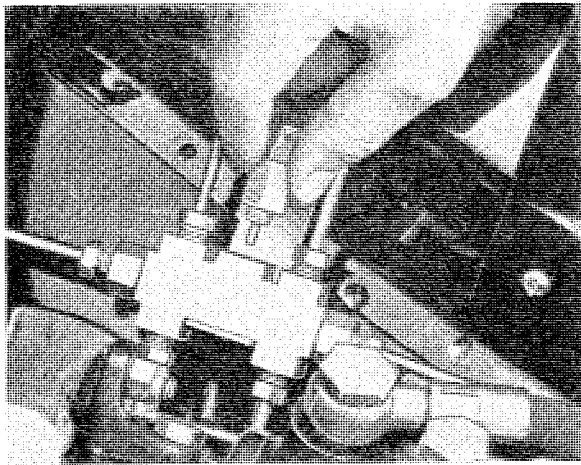

Fig. 5-55. Removing elec. contact
1. Disconnect the electric cable and screw out the warning switch (Fig. 5-55) so that the pistons return to normal position.